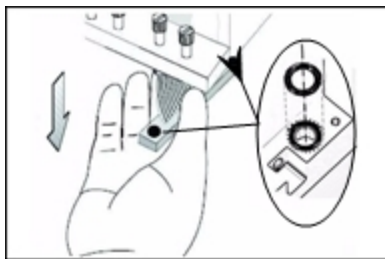

Figure 6-80 O-ring seals on the print head
14. Inspect the replacement head, and make sure that the O-ring seals are in place (see Figure 6-80 on the previous page).